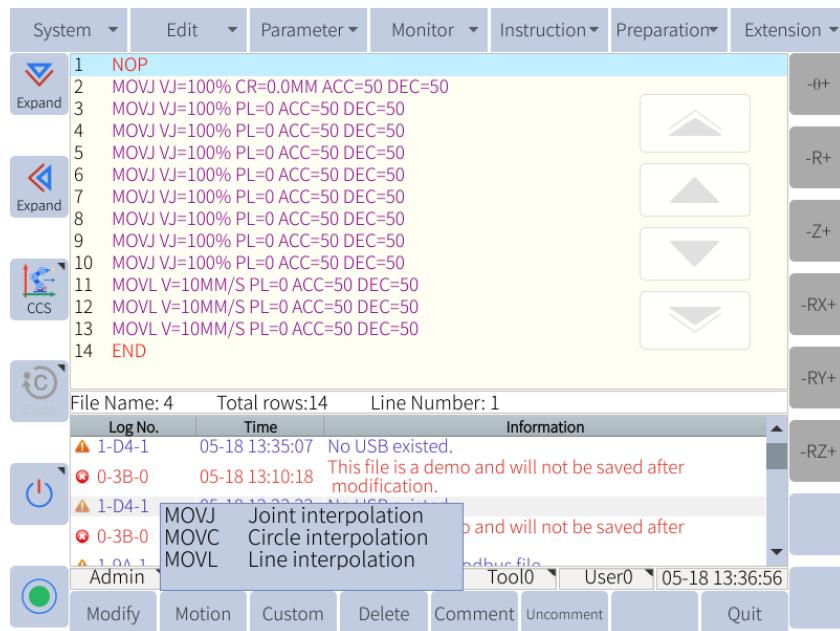

Figure 6-64 : Selecting the move instruction
4. Click "Motion" in the submenu bar, as shown in **Figure 6-64**, or select **Instruction -> Move-Instruction**, and select the desire move method on the drop down menu.